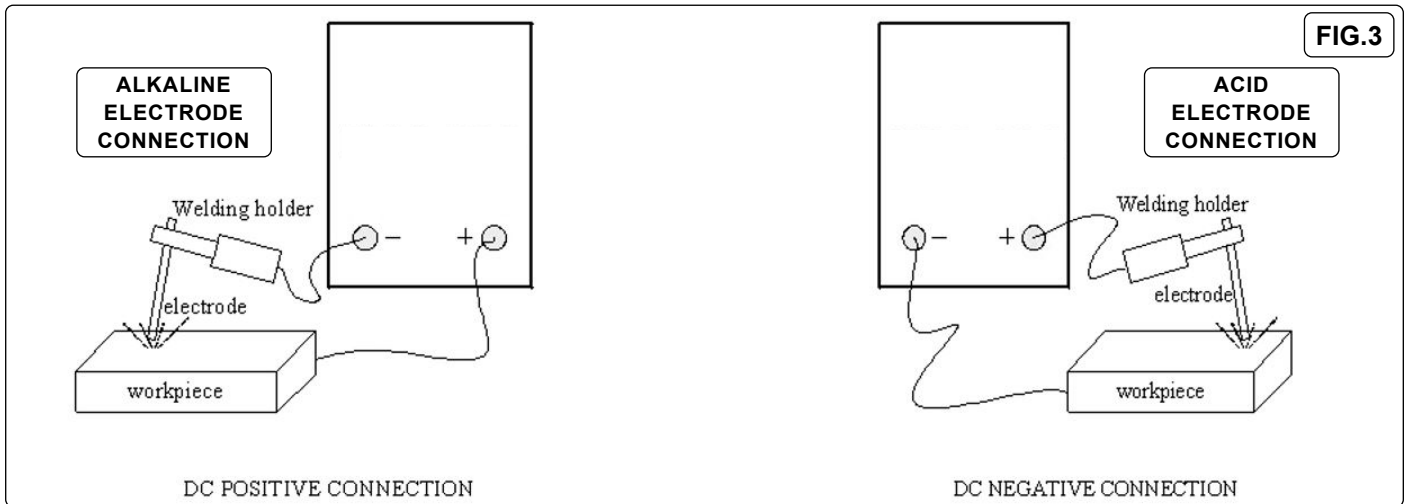

FIG.3
- 4.1.1. Connect the electrode holder and earth clamp correctly (fig.3).
**4.2. MMA WELDING - ALKALINE & ACID ELECTRODES (FIG.3)**